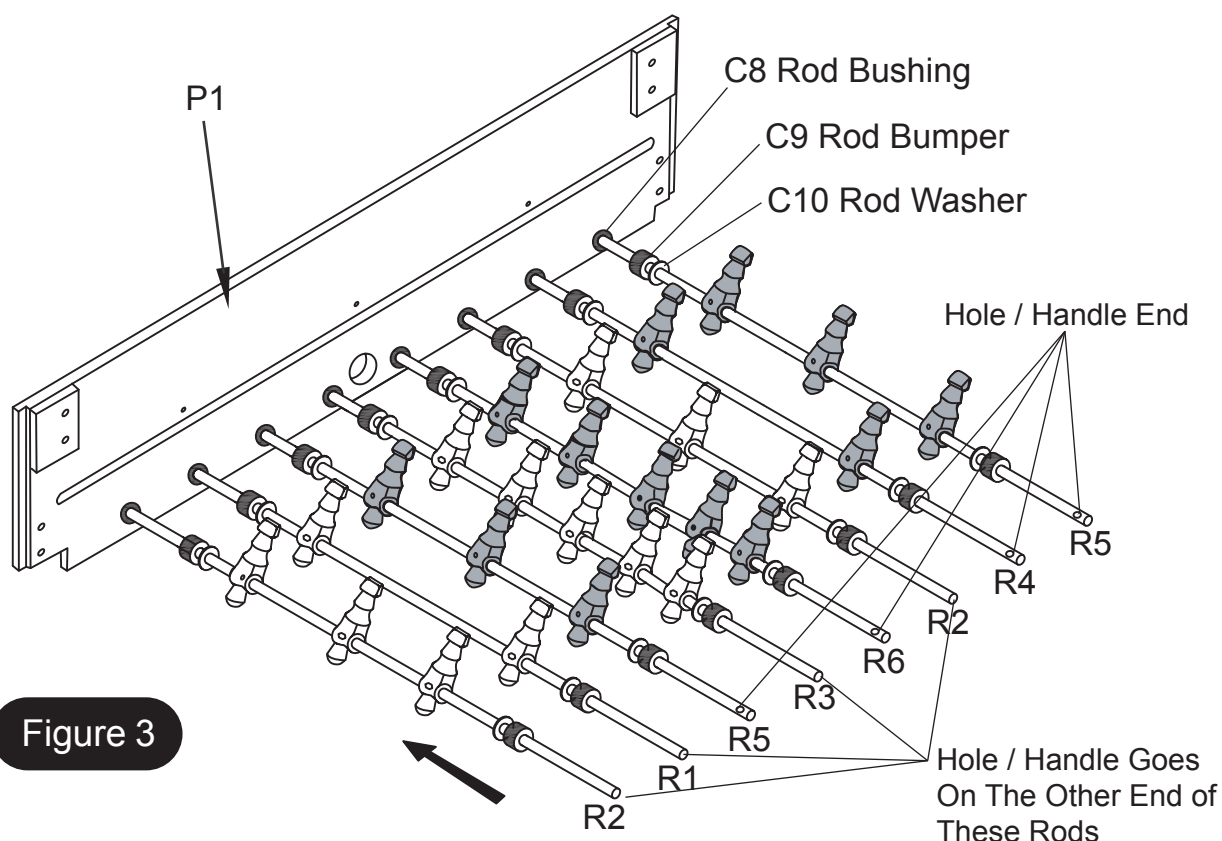

Figure 3
4. Place one Side Apron **P1** *UPSIDE DOWN* with the finished side facing out as shown in **FIGURE 3**. The ball entry hole will be closest to the floor.
5. Align the rods as shown in **FIGURE 3**. Please note the location of the hole that is near one end of each rod. This is the handle end of the rod. There will be four handles on each side of the table. It is critical that you set the rods as shown below so the table will be correct when flipped over.